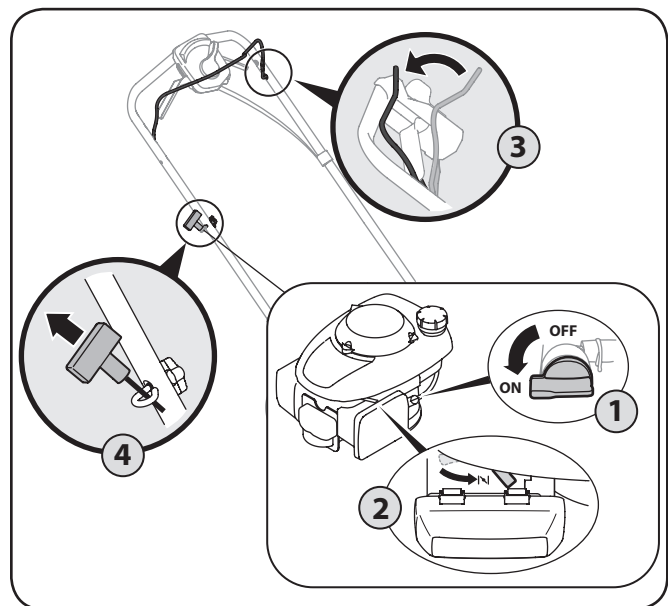

Figure 5-2
1. Place the fuel valve lever found on the left side of the engine into the ON (OPEN) position. See Fig. 5-2.
4. Holding these two handles together firmly, grasp recoil starter handle and pull rope out with a rapid, continuous, full arm stroke. See Fig. 5-2. Keeping a firm grip on the starter handle let the rope rewind slowly. Repeat until engine cranks. Let the rope rewind each time slowly.